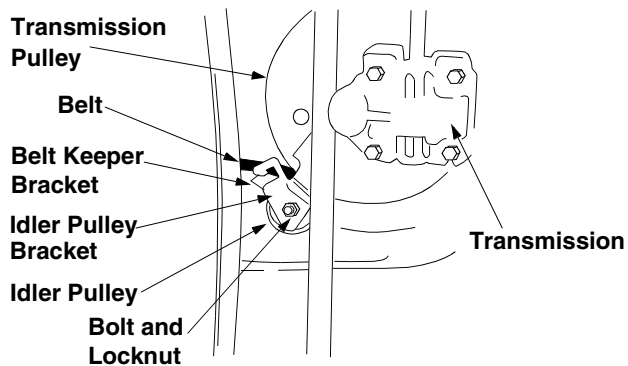

Figure 19
- Tilt the transmission forward and loosen the idler pulley bolt and lock nut half a turn. See Figure 19.
- Slide the belt out from between the belt keeper bracket and the idler pulley. See Figure 19.